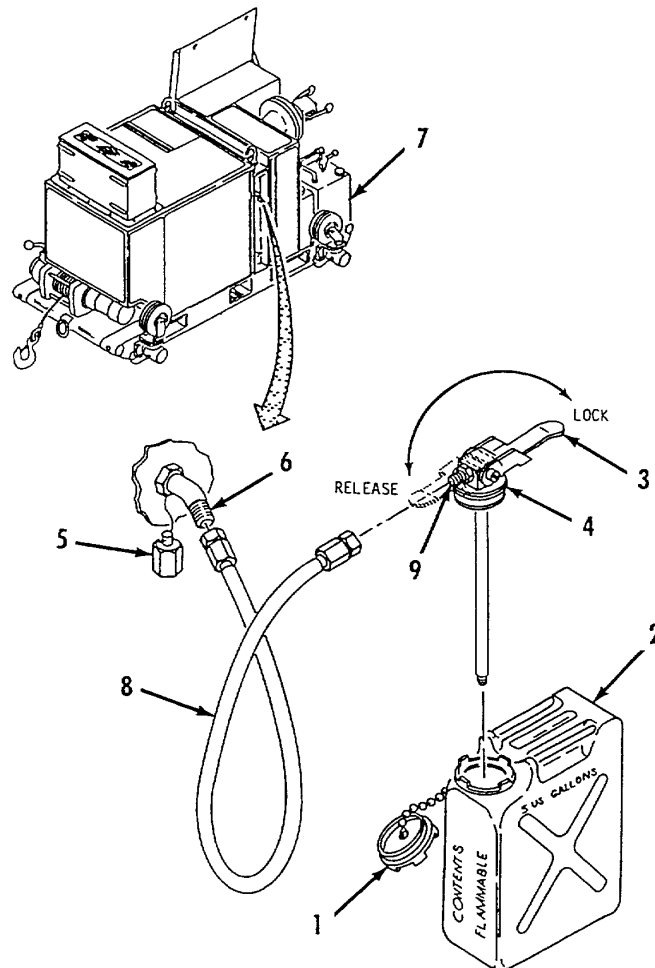

Figure 2-25. External Fuel Tank Removal.
- e. Remove 200 GPM Pump External Fuel Tank. Refer to figure 2-25.
- (1) Disconnect fuel hose (8) from coupling (9) on adapter (4).
- (2) Disconnect other end of fuel hose (8) from external fuel connector (6) on 200 GPM pump (7).
- (3) Install cap (5) on external fuel connector (6).
- (4) Move handle (3) to release position on adapter (4).
- (5) Remove adapter (4) from fuel can (2).
- (6) Install cap (1) on fuel can (2).